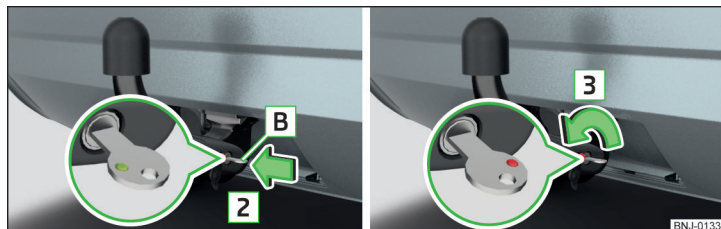

Fig. 159 Insert the key into the lock / unlock the lock
- Insert the key **B** into the lock in the direction of arrow **2**, so that its green marker points upward » Fig. 159.